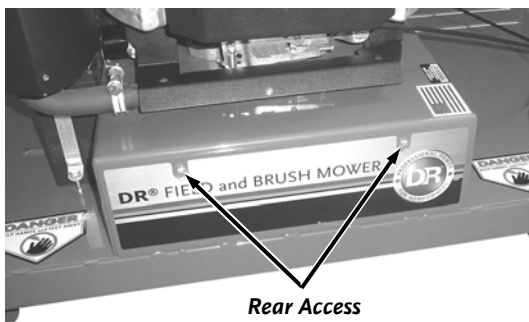

Figure 24
10. Using a 7/16" Wrench or Socket, remove the two Bolts and Lock Washers that retain the Rear Access Panel on the Mower and remove the Panel (**Figure 24**).